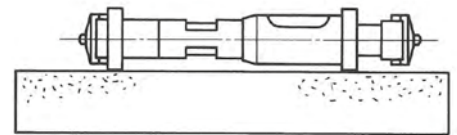

Fig. 6.
- Ensure that the supporting surfaces (11) are parallel, by placing the instrument on a flat surface as shown in Fig. 6. Finally, tighten the nut (12) to lock the snap ring.